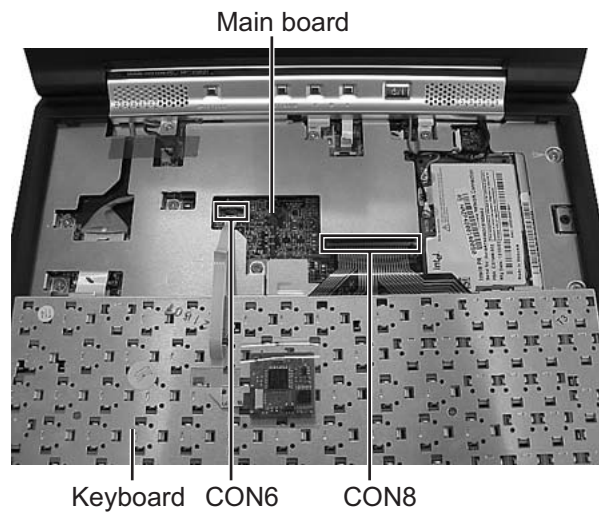

Fig.6
3.1.4 Removing the keyboard assembly(See Figure 4 , Figure 5,Figure 6)